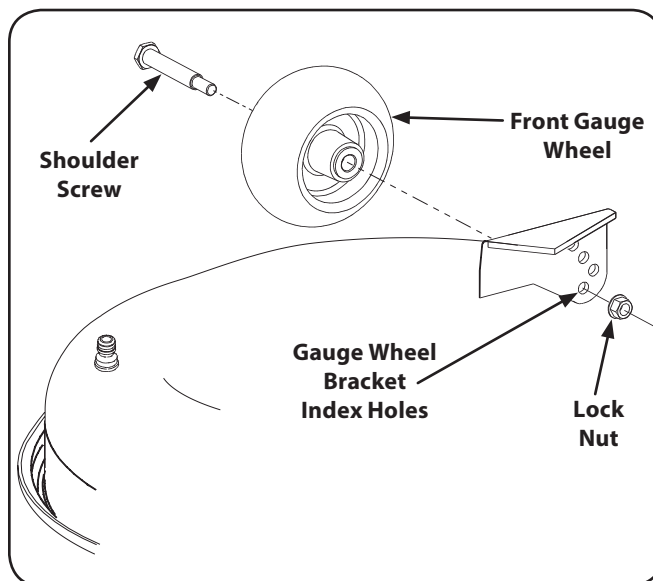

Figure 3-9
- a. Remove the lock nut securing one of the front gauge wheel shoulder screws to the deck. Remove the gauge wheel and shoulder screw. See Figure 3-9.